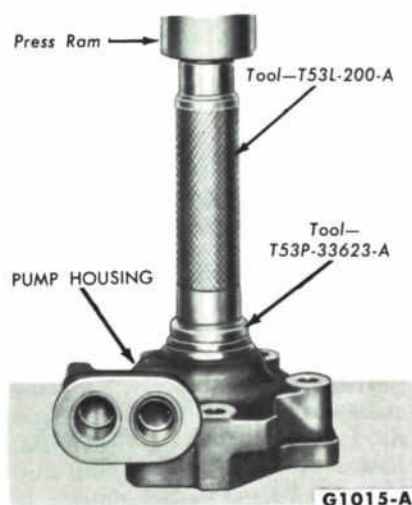

FIG. 28—Carrier Shaft Seal Installation
2. Position the seal in the bore of the housing. The lip of the seal must face toward the pump housing carrier chamber. Press the seal into the housing (Fig. 28) until it seats firmly and evenly against the shoulder in the bore.